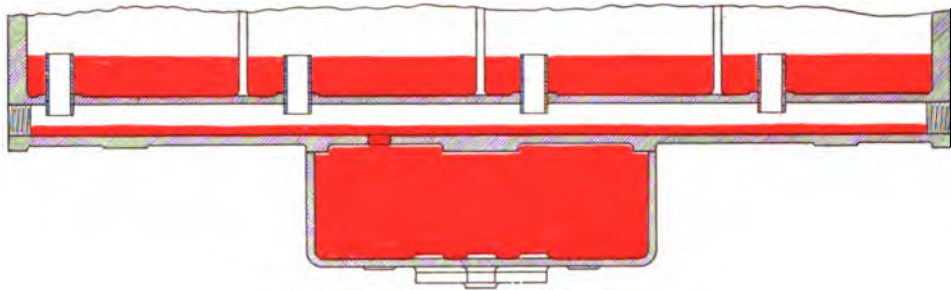
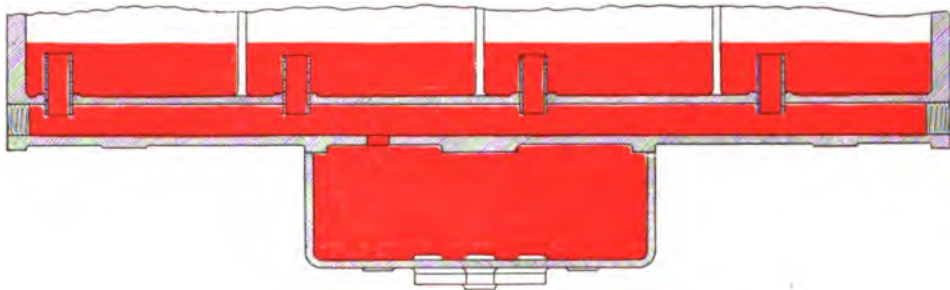

Fig. 5. Correct Oil Level.
Fig. 6. Oil Level Too High.
- 51 — The oil level is adjusted by means of raising or lowering the overflow pipe Y, Fig. 3. The correct oil level is shown in Fig. 5.
Except under extreme conditions, the overflow pipes under each cylinder should not be filled with oil, but should show the condition that exists in Fig. 5. An oil level that is too high is shown in Fig. 6.